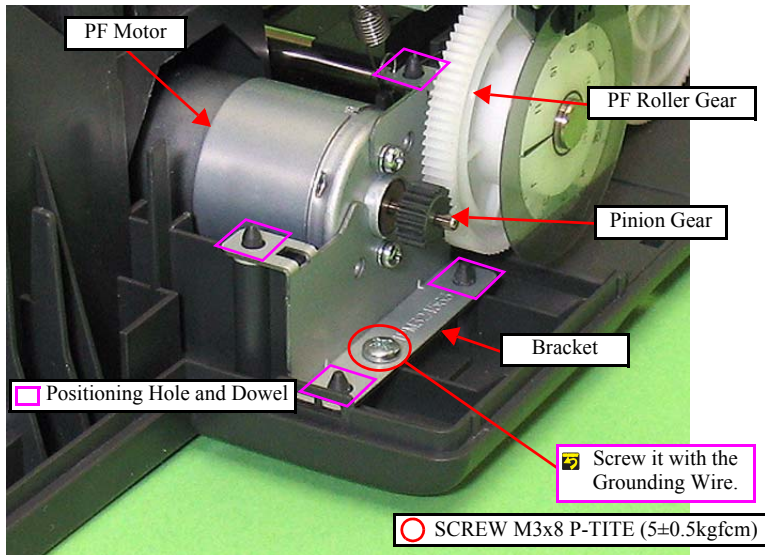

Figure 4-69. Removing the PF Motor (3)
- Before securing the Bracket, align the four positioning holes of it with the four dowels of the Lower Housing. (See Fig.4-69.)